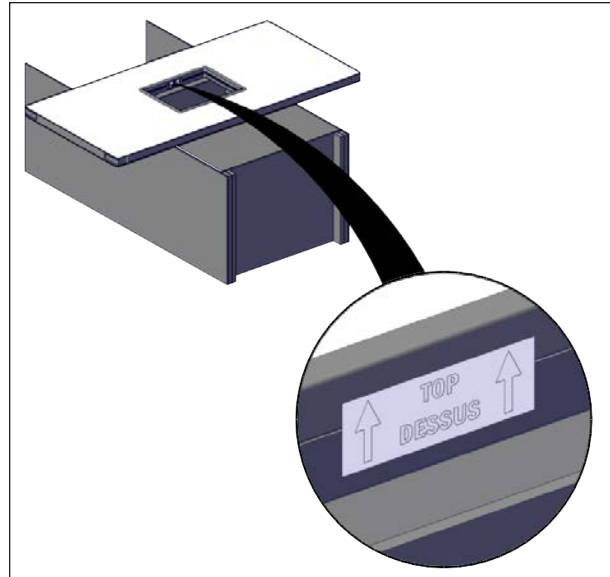

FIGURE 24: PANEL INSTALLATION
2. Install the escape hatch panel (approx 47" x 96" [119 cm x 244 cm]) onto the middle of the installation surface, see Figure 24. Ensure the TOP/DESSUS label (Figure 24) located in the panel hole is properly oriented.